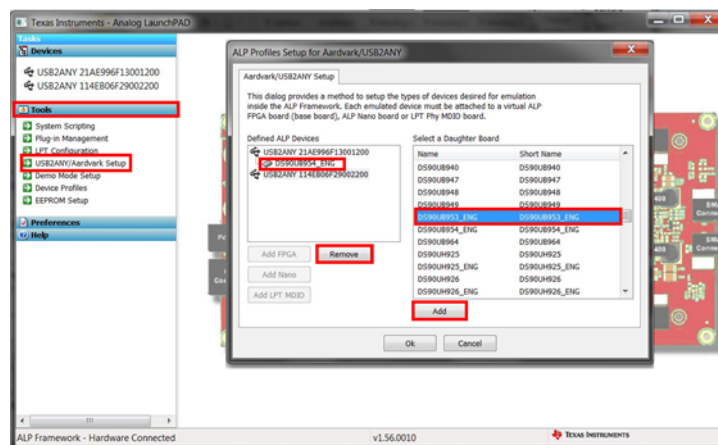

**Figure 37. Test Setup**
15. The setup should now look like what is shown in the Figure 37.